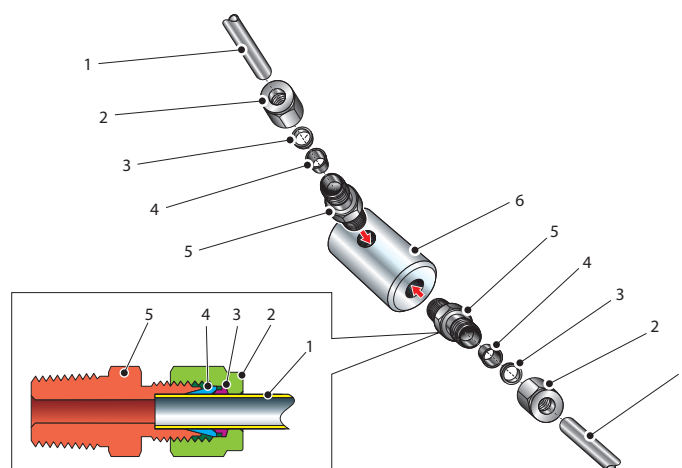

Figure 23 Sample Block Gas Connections
Sample gas connections are made to the Gas In and Gas Out ports on the sample block see *Figure 23*. Either port on the sample block may be used as the Gas Input port (i.e. for connection purposes the ports are interchangeable).
Both the Input and Output gas connections are  $\frac{1}{8}$ " NPT. It is recommended that both the Gas Input and Output connections are made via  $\frac{1}{8}$ " NPT to 6mm or  $\frac{1}{8}$ " NPT to  $\frac{1}{4}$ " stainless steel tube adaptors (2 to 5 – *Figure 23*). The method of connection to the sensor block (6) is as follows:
1. Cut a suitable length of 6mm ( $\frac{1}{4}$ " U.S.) stainless steel tubing (1) to the correct length and, if necessary, bend to shape to suit the location of the sensor block assembly. **NOTE: To facilitate ease of connection to the port, at least 75mm (3") of the tubing coming out of the Gas In port must be straight.**
3. Screw the  $\frac{1}{8}$ " NPT ( $\frac{1}{4}$ " U.S.) NPT Swagelok adaptor (5) into the  $\frac{1}{8}$ " NPT ( $\frac{1}{4}$ " U.S.) NPT inlet port in the sensor block (6) and tighten to a torque setting of 35 Nm (25 lbf-ft).
4. Pass the stainless steel tubing (1) through the locking nut (2). NOTE: Threads towards the gas port.
5. Fit the back ferrule (3) over the stainless steel tubing (1) with the bevelled end facing the back of the front ferrule (4).
6. Place the front ferrule (4) over the stainless steel tubing (1), bevelled end towards the adaptor (5).
7. Push the stainless steel tubing (1) as far as it will go into the adaptor (5) and tighten up the locking nut (2) finger tight.
8. Hold the adaptor (5) flats with a spanner and tighten up the locking nut (2) to a torque setting of 35 Nm (25 lbf-ft) (1¼ turns). This action compresses the front ferrule (4) and back ferrule (3) onto the tubing to form a gas tight seal.
3. Switch on the power supply to the instrument. The instrument display will now come on, typically showing the default parameters and units as detailed in *Figure 23*.